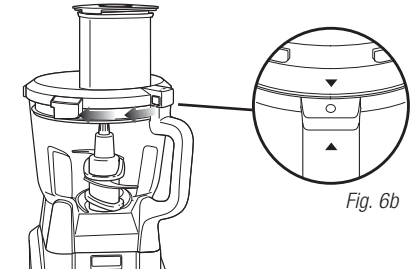
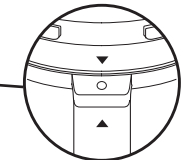

Fig. 6a
Fig. 6b
- 9 Holding the feed chute lid, place it on top of the bowl and turn clockwise aligning the arrow located on the lid with the arrow located on the bowl's handle. You will hear a click when the lid is locked in place. (Fig. 6a) The triangles on the lid and the Processor Bowl handle **MUST** be aligned in order for the blender to turn on. (Fig. 6b)